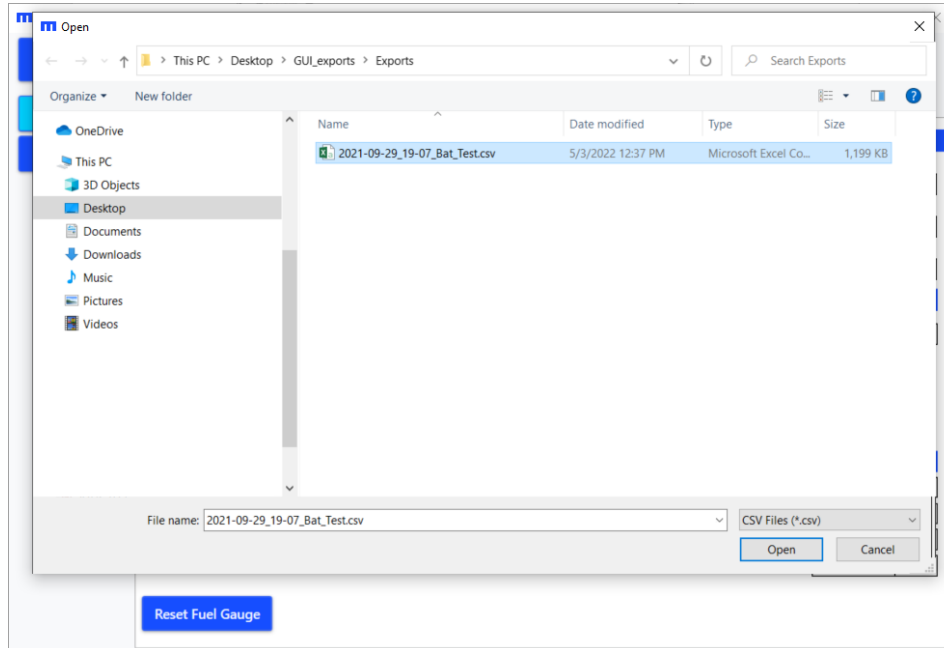

Figure 58: Virtual Fuel Gauge Select Input File
- Select the recorded “.csv” file to re-run using the explore button (see Figure 58).